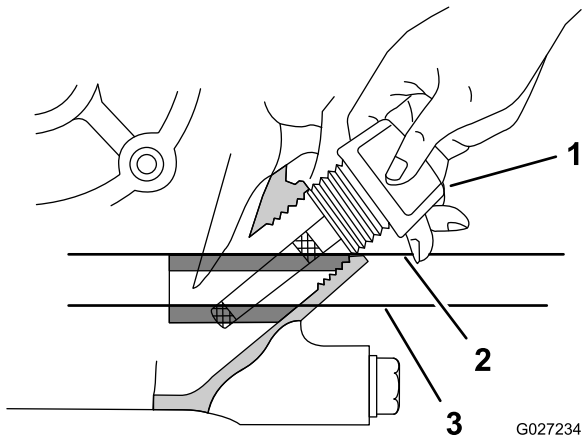

Figure 62
- Insert the dipstick from the engine as shown in Figure 62.